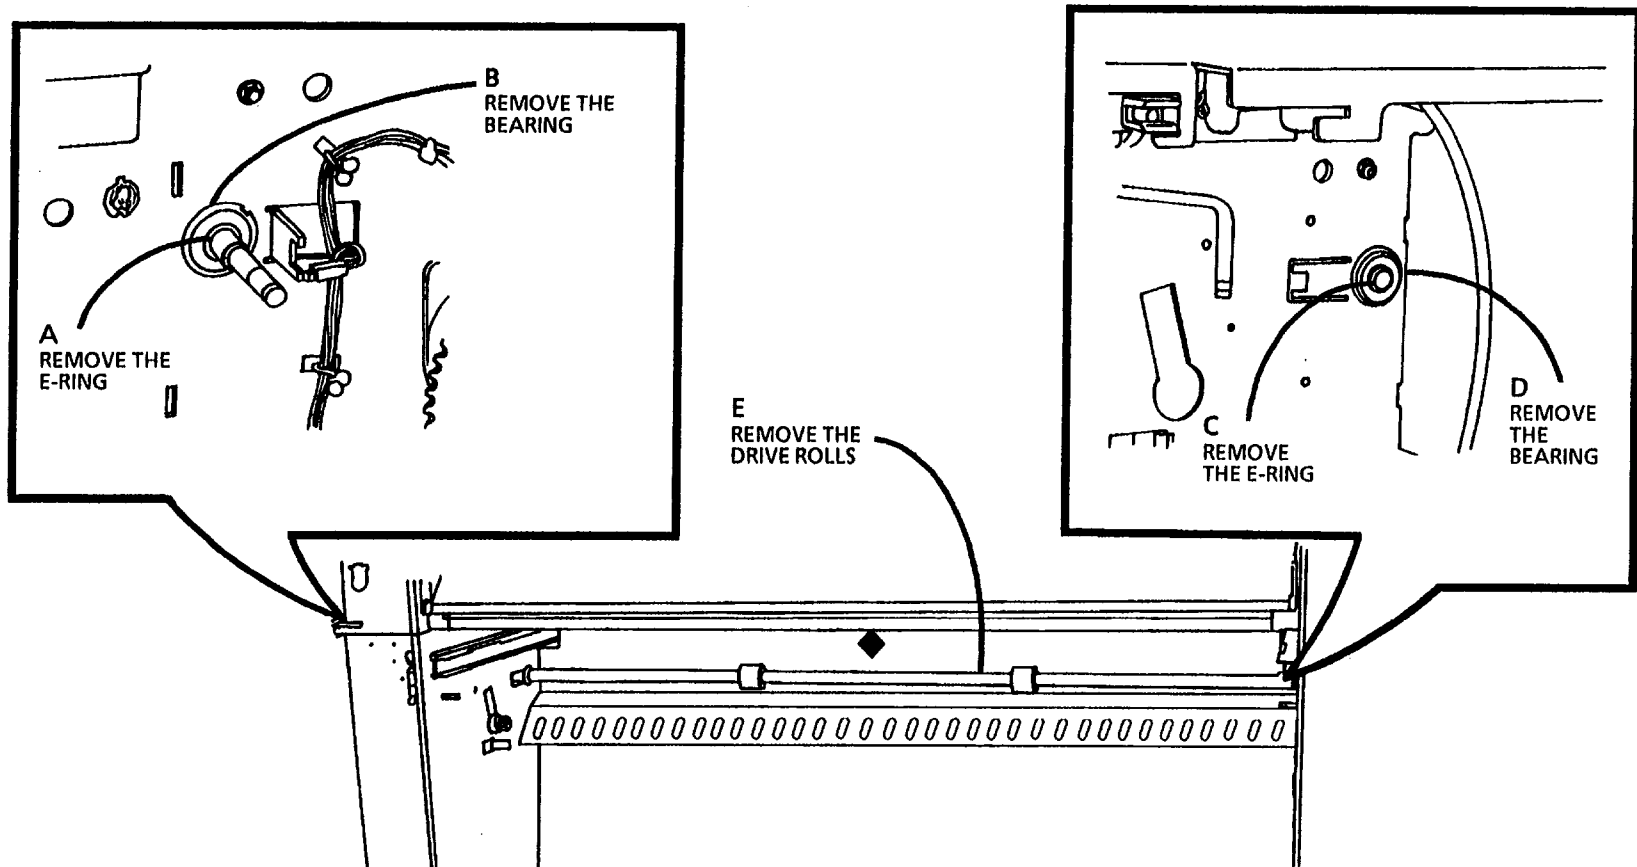

Figure 1. Removing the Roll Feed Drive Rolls
4. (Figure 1): Remove the Roll Feed Drive Rolls.